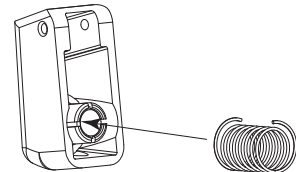

Figure 2
- Replace the spring around the magnet (as shown in figure 2).